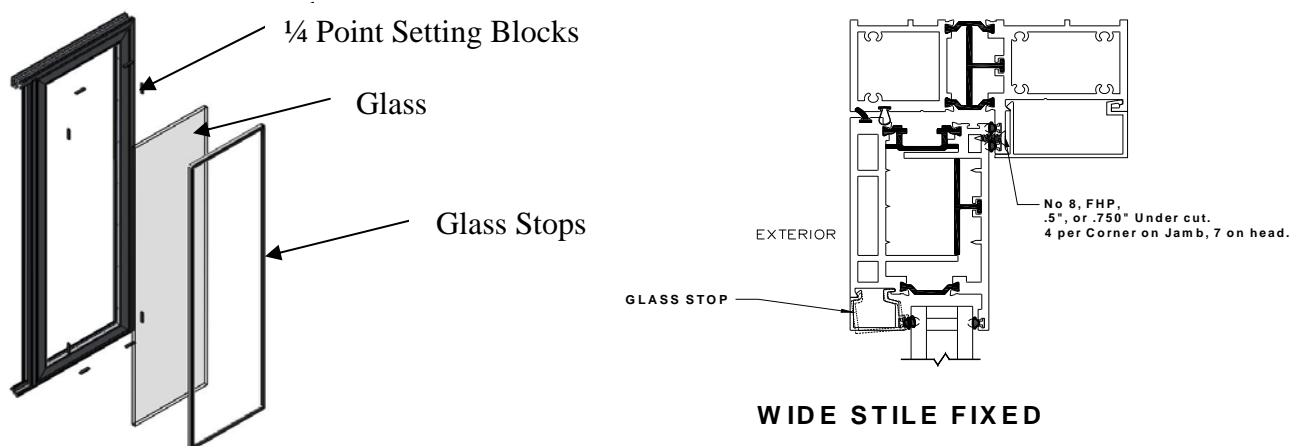

Figure 12: Panel Glazing Illustration-Wide Stile Frame Shown.
- Install glass setting blocks (total 6 pcs per panel) at ¼ points into each jamb, head and sill for all four corners (see Fig. 12).
- Install glass to panel frame then install glass stops (see Fig. 12).